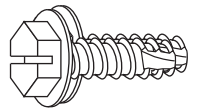
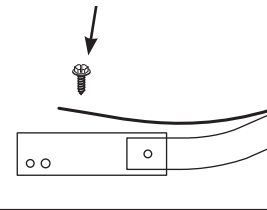
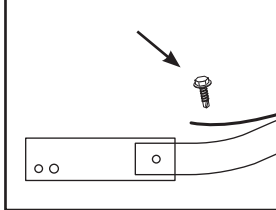

Fig. 35
Fig. 36
Fig. 37
- A. Fasten the tarp to the slider or bow. Use the hex head screw (part # 506-9908) if your tarp overlaps the slider (Fig. 35). If the tarp does not overlap the slider (Fig. 36) or if it overlaps a small amount (Fig. 37), then use the self tapping screw (part # 506-9907) to go through the tarp grommet, slider and bow. Repeat these steps to attach tarp to each bow.